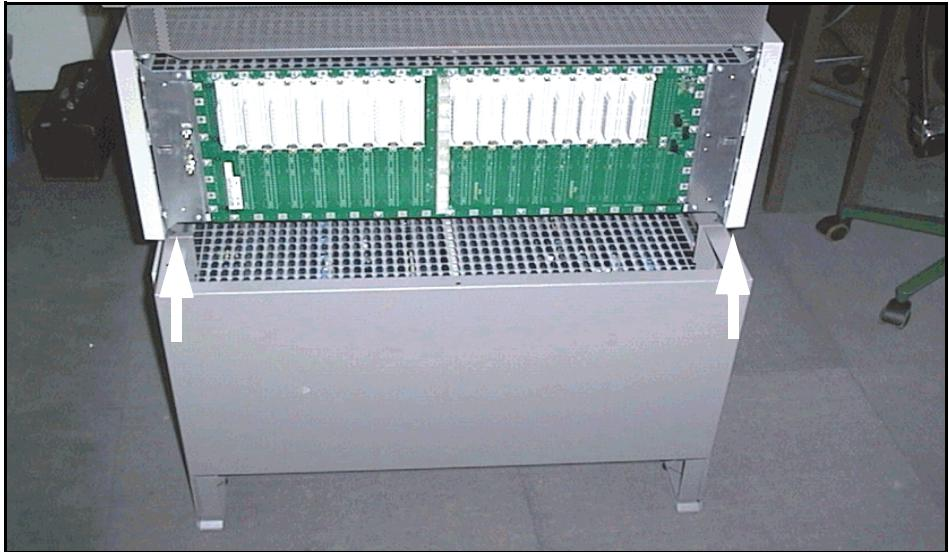

Figure 10
3. If the system contains multiple cabinets, remove the remaining covers from the lower cabinets by following step 2 (see Figure 10).